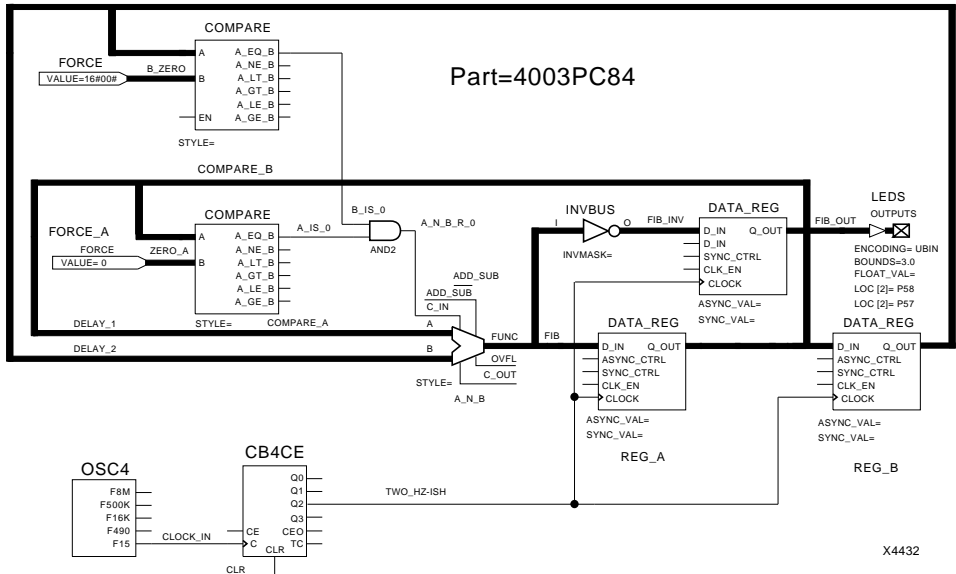

Figure 3-2 Sample Design — Fibonacci Sequence Generator Using the X-BLOX Design Tool
Complete the design shown in Figure 3-2 by following the steps outlined below.
1. Place the X-BLOX components and other components from the XC4000 library on your schematic and connect them as shown in Figure 3-2.